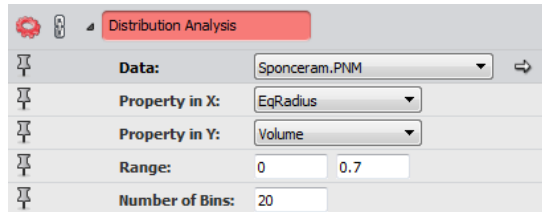

Figure 24.19: Distribution Analysis
- Set the parameters as shown in Figure 24.19 and click **Apply**.